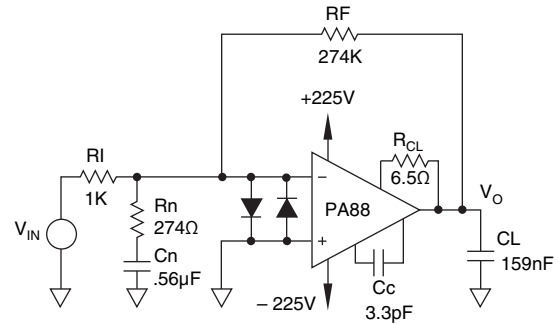
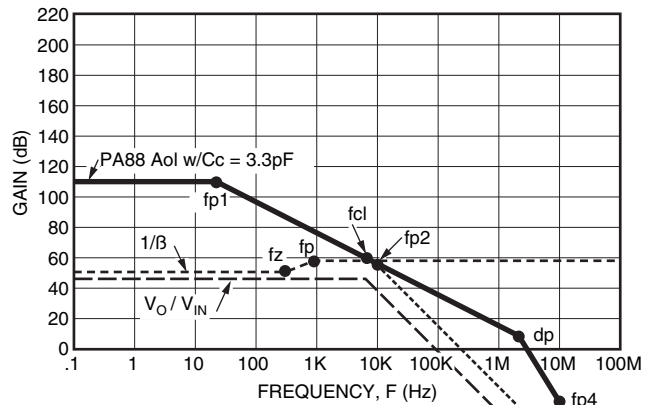
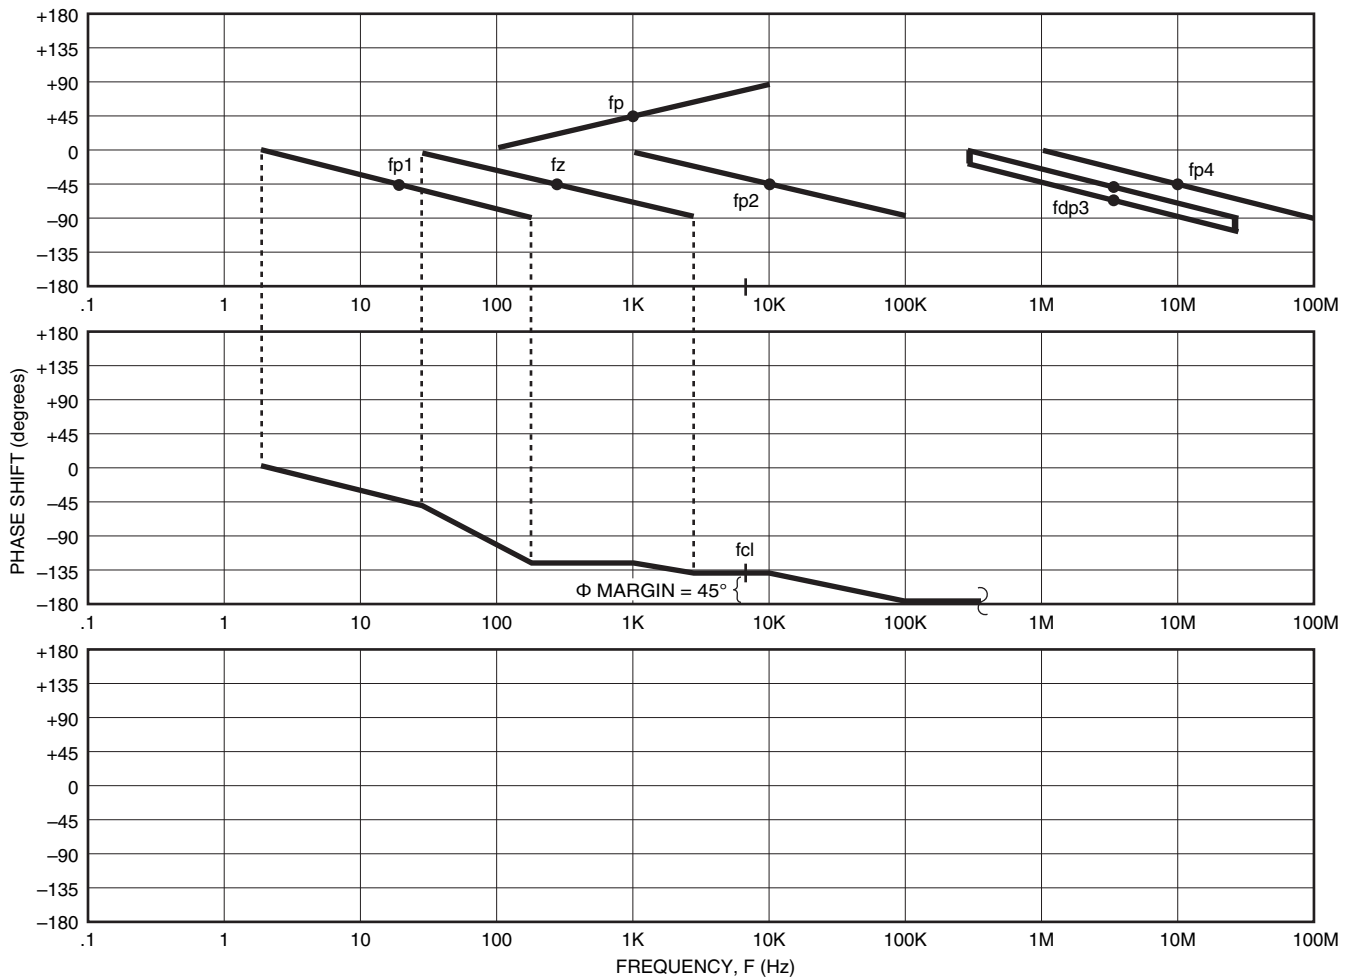

FIGURE 30. NOISE GAIN COMPENSATION FOR CL
FIGURE 31. NOISE GAIN COMPENSATION MAGNITUDE PLOT FOR STABILITY
FIGURE 32. NOISE GAIN COMPENSATION OPEN LOOP PHASE PLOT FOR STABILITY
Figure 30 illustrates a circuit utilizing noise gain compensation for stability when driving a capacitive load. Figure 31 is our magnitude plot to work with for stability.
The higher frequency poles of the unmodified PA88 Aol must be added into the modified Aol as shown in Figure 31.
STEP 4: Plot open loop phase plot as in Figure 32 (see following page) from the information given in Figure 31. We see from this plot we have 45 degrees of phase margin.